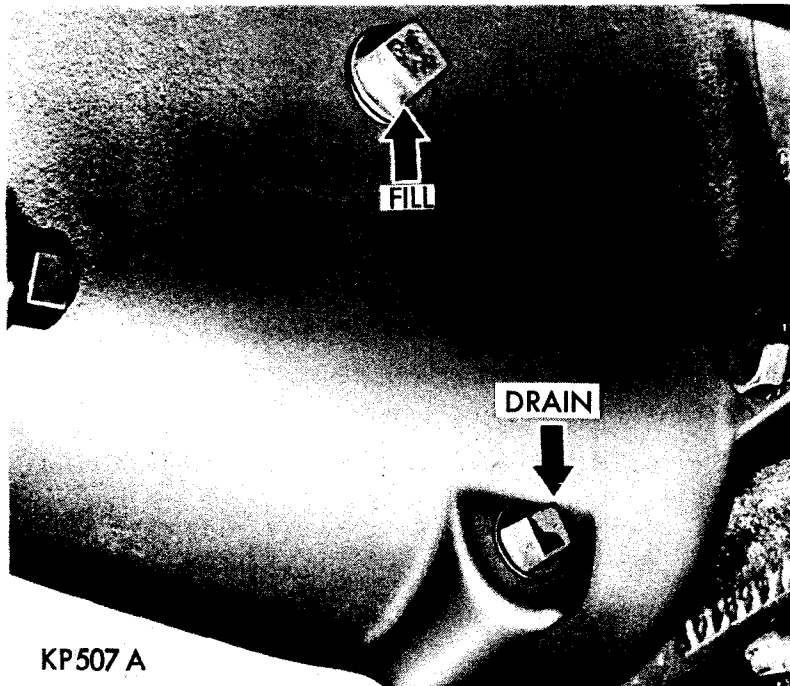

Figure 40 — Distributor Lubrication Points (Typical)
The distributor (Figure 40) should be lubricated at three points: (1) Oil cup on the side of the distributor if so adapted; and (2) Wick under the rotor in the center of the cam. Apply a few drops of SAE 10W Engine Oil to the oil cup, if so equipped, after each 25 hours of operation. After 250 hours of operation, remove the distributor cap and rotor and apply two or three drops of SAE 10W Engine Oil to the cam wick; (3) Wipe old grease from surface of the breaker cam. Apply a tight film of new distributor cam grease, MoPar Number 1473595.